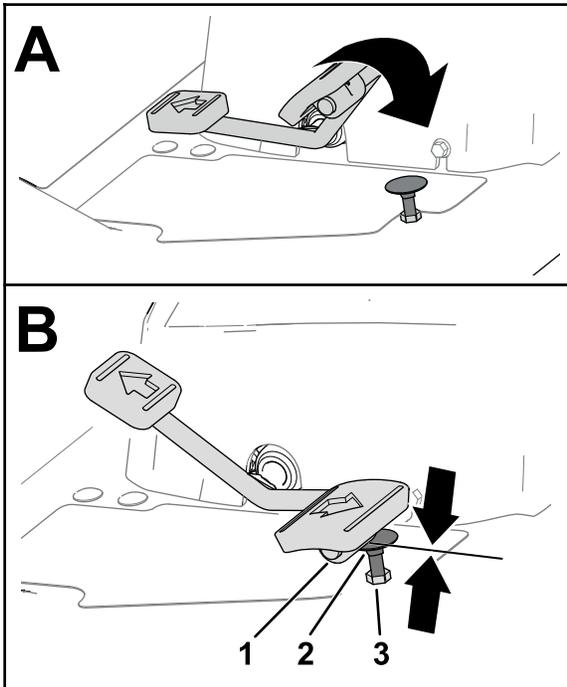
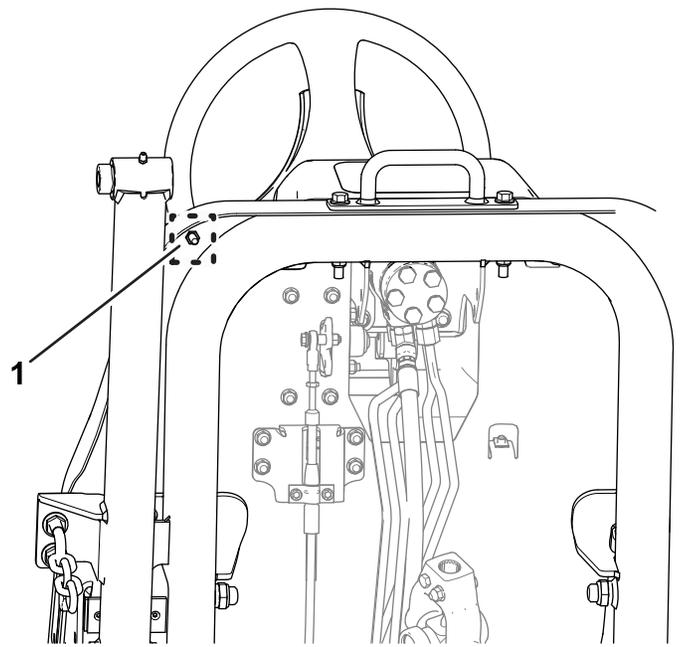

Figure 82
Figure 83
1. Move the traction pedal fully forward (Figure 82).
- A. Hold the traction-pedal stop (Figure 82) with a wrench.
- B. Loosen the jam nut at the bottom of the footrest plate (Figure 83).
- C. Move the traction pedal to the full forward position (Figure 82).
- D. While holding the traction-pedal stop, adjust the jam nut that is above the footrest plate (Figure 82) until the traction pedal makes contact with the stop.
- F. While holding the traction-pedal stop, torque the jam nut at the bottom of the footrest plate (Figure 82 and Figure 83) to 37 to 45 N·m (27 to 33 ft-lb).